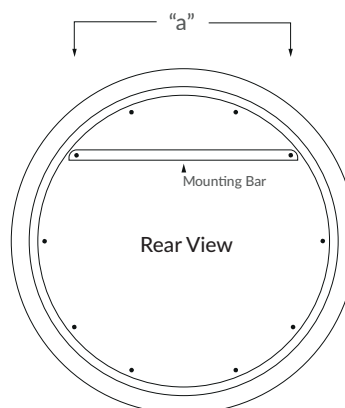

Fig. 2
1. Make certain the wall is solid, and use the flexible rule to measure the distance between two hardy holes on the mirror frame ("a" in fig 2).
2. Use the flexible rule to measure the centre distance between two hardy holes on the wall ("a" in fig 2) and mark them out with a pencil.